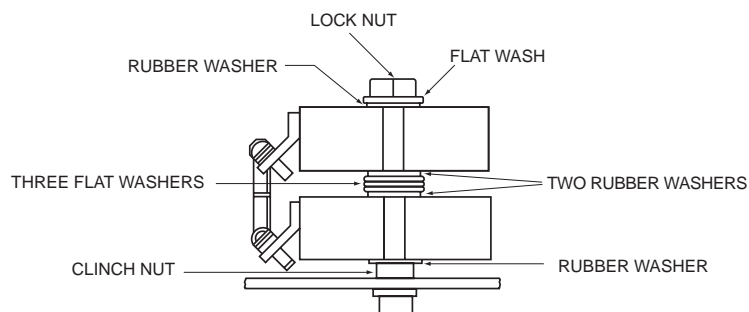

Figure 4.2.39: Washer and Grommet Stack
6. Slide the new resistors onto the mounting posts, replacing the washers and grommets in their proper order. (See Figure 4.2.39 on page 4.2.69).